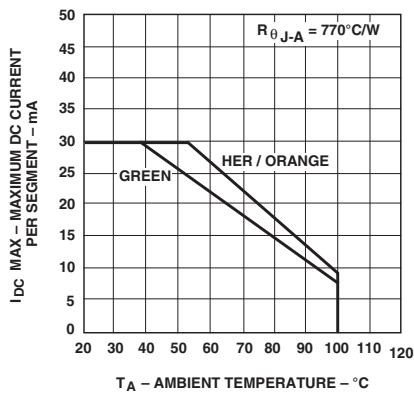

Figure 7. Maximum allowable dc current vs. ambient temperature.
2. Derate above 53°C at 0.45 mA/°C (see Figure 7).
4. Derate above 39°C at 0.37 mA/°C (see Figure 7).